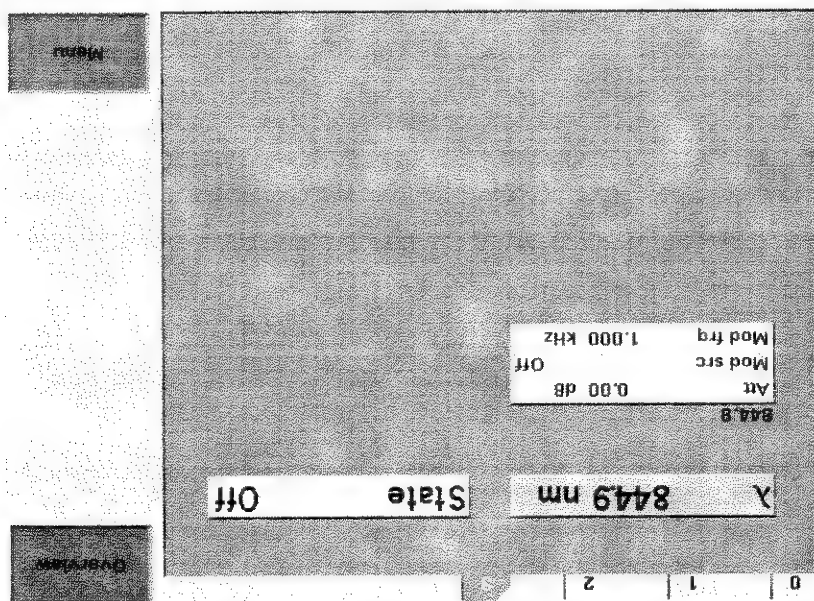

Figure 58 The Power Sensor Details Screen
- 1 Move to the laser source channel and press the [Details] softkey. You see the screen in Figure 58.